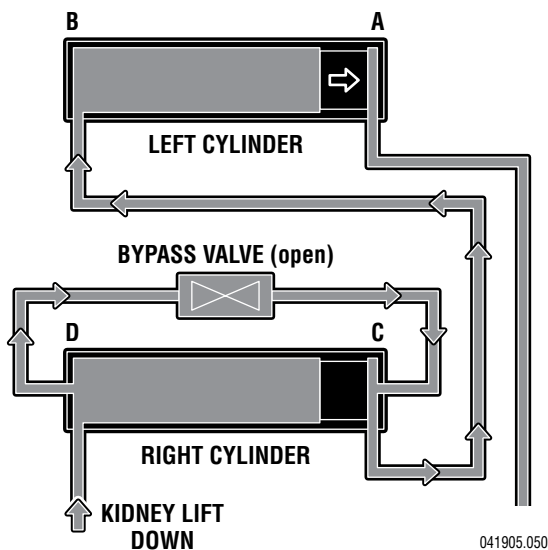

Figure 3-12.
4. Leave the bypass valve open and activate "KIDNEY DOWN". Hydraulic pressure keeps the piston in chamber "C", the hydraulic fluid passes through the bypass valve and fills cavity "B" pushing the piston into cavity "A". See figure 3-12.